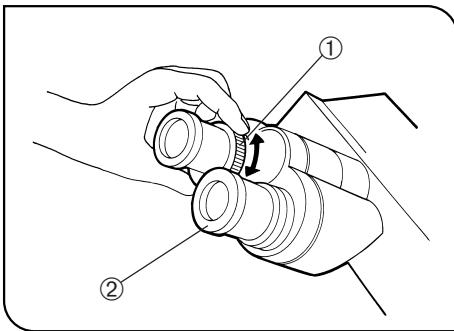

Fig. 22
2 Adjusting the Diopter (Fig. 22 & 23)
2. Looking through the eyepiece with the diopter adjustment ring ①, turn it to focus on the specimen. (Fig. 22)
1. Looking through the right eyepiece with your right eye, turn the top of the eyepiece ② until a clearly defined double crosslines can be seen in the field of view. (Figs. 22 & 23)
3. Looking through the left eyepiece with your left eye, turn the diopter adjustment ring ① to focus on the specimen.